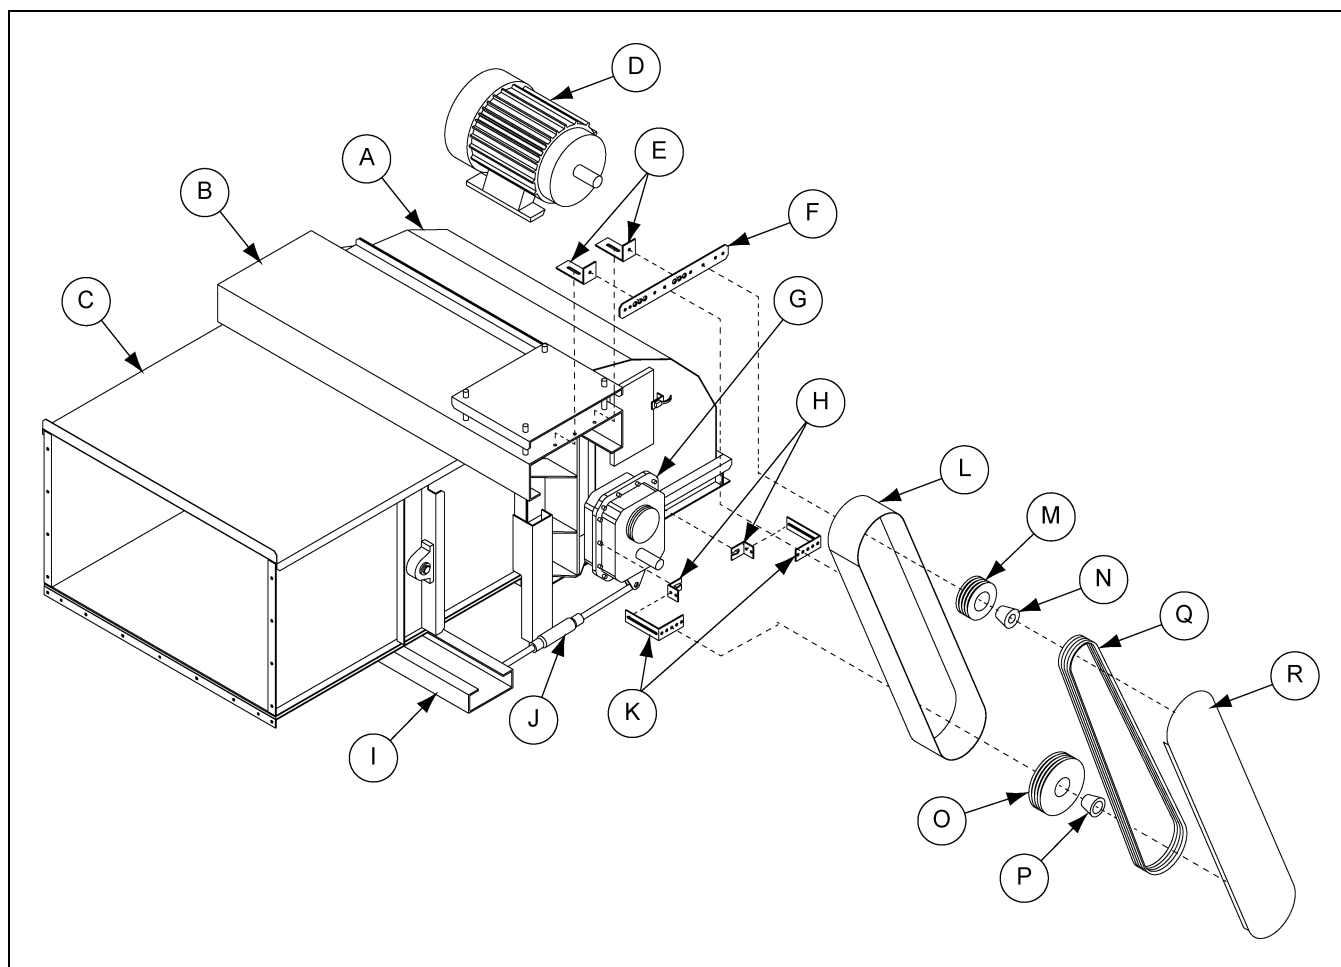

Figure 4Y Typical Shaft Mount Drive Installation
Refer to Figure 4Y on Page 38. Save and refer to the manufacturer's data supplied with the reducer. The reducer has a hollow output shaft. Tapered bushings in the output shaft seat the reducer on the conveyor head shaft. The input shaft faces away from the conveyor. The reducer should be positioned close to the head shaft bearing while leaving between 38 mm to 62 mm (1.50"-2.44") depending on drive model for clearance to tighten and loosen the screws that draw the tapered bushings tight on the head shaft.
1. Slide the gearbox's hollow shaft onto the conveyors extended shaft with proper clearance on back side of the gearbox and tighten the taper-lock bushings to proper torque settings. (See Figure 4Y on Page 38.)
2. Attach the torque arm bracket to the trough bottom directly behind the head. This should put the torque arm (J) into the proper tension state.
3. Attach the torque arm anchor bracket to the reducer housing (G).
5. Refer to Figure 4Y on Page 38. Assemble the torque arm clevis bracket to the torque arm eye bolt.
7. Adjust the torque arm (J) so that the reducer (G) is vertical. Use the lock nut on the turnbuckle to prevent movement by vibration.
8. Attach the motor mount (B) to the top of the head assembly (A) through the given holes.
9. Fasten the motor (D) to the motor mount (B). The fasteners used will depend on the size and origin of the motor. DO NOT tighten motor mounting screws yet.
10. Fasten the belt guard mounting brackets (H) to the reducer (G), and brackets (E) to the motor mount (B). After installing the brackets (E), attach the mounting bracket guard TA (F) to the brackets (E).
11. Loosely fasten the belt guard WITH THE COVER REMOVED to guard mounting bracket (F). Hole locations for the mounting brackets will need to be found and drilled into the belt guard. Shift the guard so that the elongated hole for the reducer input shaft is vertically aligned and so the full range of adjustment is available. Tighten the guard mounting fasteners.
12. Assemble the drive (M) and driven sheaves (O) on the motor (D) and reducer (G) input shafts. Align the sheave faces and tighten the bushing set screws.
13. Fit the belts (Q) over the sheaves. Use the long screws in the motor bracket to take-up the slack in the belt (Q). Make sure the guard does not rub on either shaft. Then re-install the belt guard cover (R).